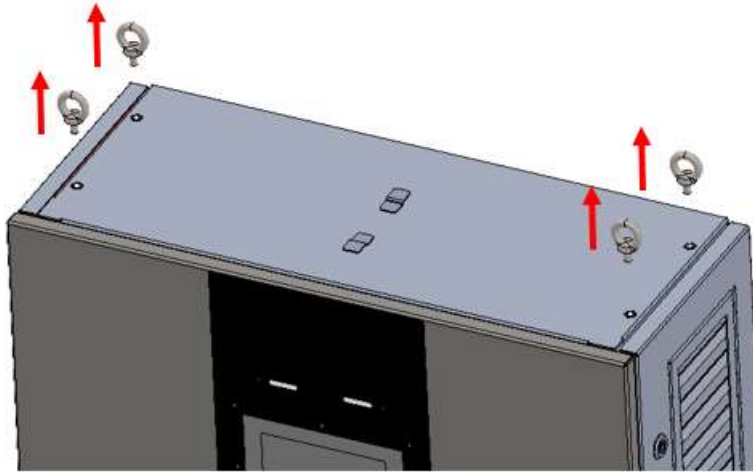

Figure 18 Remove the hoisting rings
(11) Select a drill bit of  $\varnothing 10$  and drill holes with a depth of about 70mm at the marked position in the previous step with a hand drill. Drive  $M6 \times 50$  expansion screws into the hole and fully tighten the 4 expansion screws. After installing connector holders, restore the removed black plugs.
(12) Remove the hoisting rings on the top of the charger main body as shown in Figure 18.